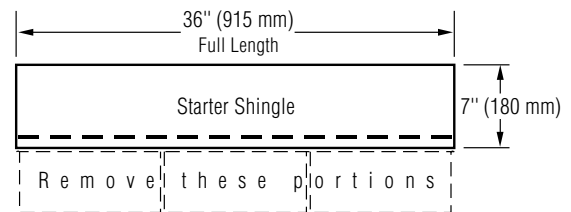

Figure 10-6: Make starter shingles by removing the lower 5" tabs.
1. Use CertainTeed Swiftstart® or a starter course consisting of the shingles from which the lower 5" tabs have been removed (Figure 10-6). Remember, the sealant on starter courses should lie as close as possible to the eaves edge of the roof.
1. Use CertainTeed Swiftstart® or a starter course consisting of the shingles from which the lower 5" tabs have been removed (Figure 10-6). Remember, the sealant on starter courses should lay as close as possible to the eaves edge of the roof.